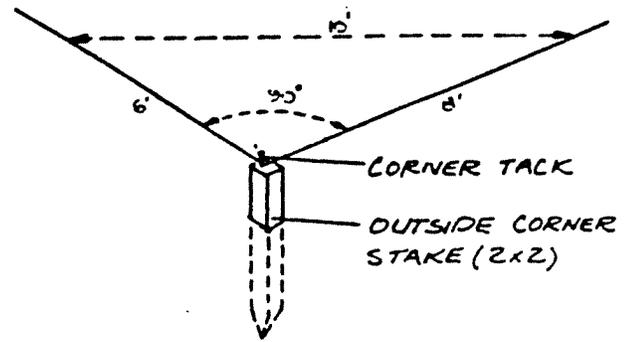

FIGURE 2
3. Lay out the outside foundation lines. Figure 1 shows the simplest method for locating these. Locate each outside corner of the house and drive small stakes into the ground. Drive tacks into tops of these stakes to indicate the outside line of the foundation wall (not footings). Next check squareness of house by measuring the diagonals, corner to corner, to see that they are equal. (If structure is rectangular, all diagonal measurements will equal.) You can check squareness of any corner by measuring down one side for 6 ft., down the other for 8 ft. The length of the diagonal line across these two end points should measure exactly 10 ft. If it doesn't, the corner isn't truly square. See Figure 2.